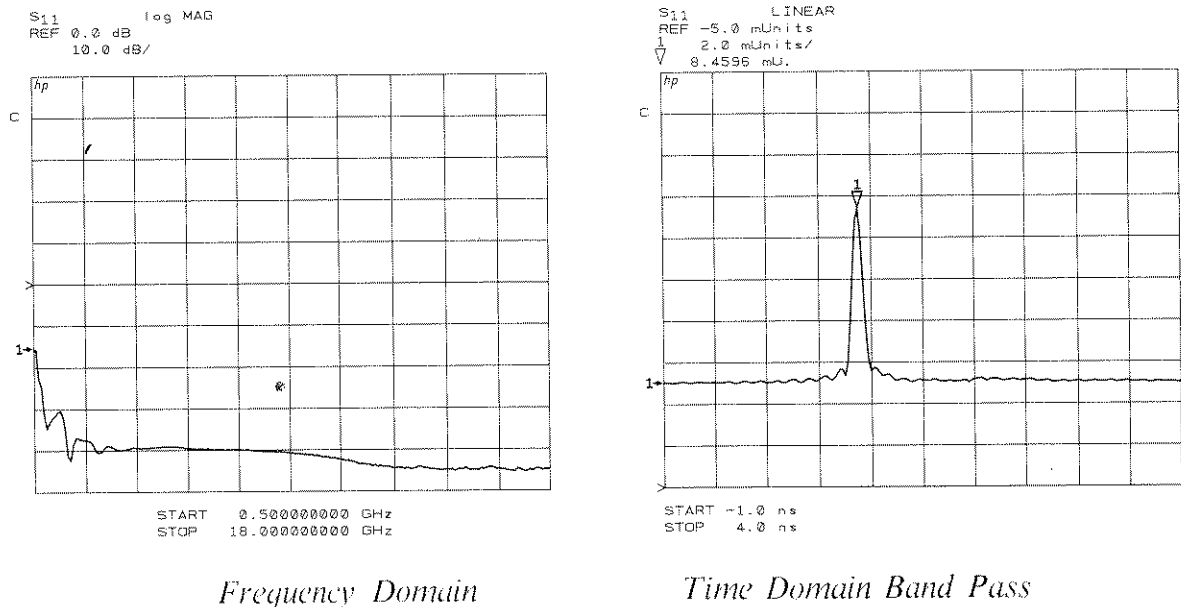

Figure 77. Measurement of a Sliding Load
The typical Frequency Domain and Time Domain responses of a sliding load are shown in Figure 77.
**Interpreting the Band Pass Response Horizontal Axis.** In Band Pass reflection measurements, the horizontal axis represents the amount of time that it takes for an impulse, launched at the test port, to reach the discontinuity and return. Thus, this is the two-way travel time to the discontinuity, which in Figure 77 is the load element of the sliding load.